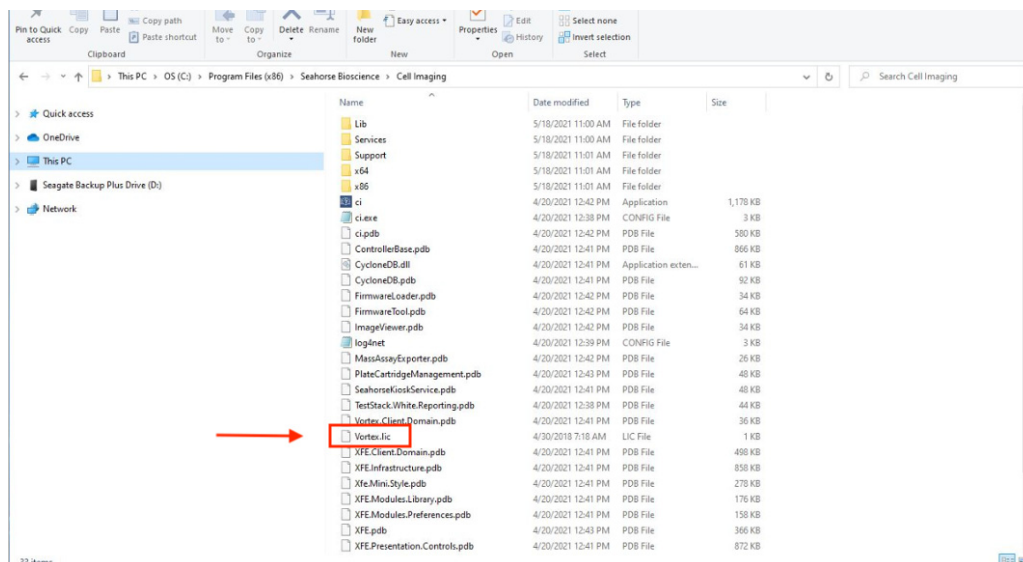

Figure 4. The XF Cell Imaging and Normalization license file (**vortex.lic**) location (C:\Program Files (x86)\Seahorse Bioscience\Cell Imaging).
- 7 Go to: C:\Program Files (x86)\Seahorse Bioscience\Cell Imaging (Figure 4) and copy the XF Cell Imaging and Normalization license file (**vortex.lic**) to your external storage device.